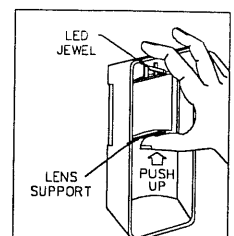

Fig. 2. Removing the lens.
1. Push up on the lower edge of the Lens Support (see Fig. 2) until it is clear of its retainers, then pull out the Lens Support from the bottom. Be careful not to dislodge the LED jewel. Note: If the jewel pops out, re-insert it with the small index key positioned at the top.